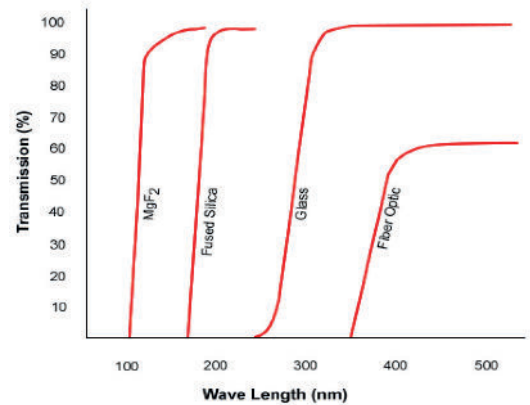

Figure 2: Transmission of input windows.
The input window of an image intensifier is selected to have good transmission for the light being imaged and typically determines the short wavelength response of the image intensifier. Example window materials are given in Figure 2. The photocathode is a thin film semi- conductor grown on the inside surface of the glass input window. The photocathode material is selected to provide high sensitivity to the light being imaged. When a photon, or quanta of light, is absorbed in the photocathode an electron is freed and can be emitted from the vacuum surface of the photocathode as a photo-electron (pe). The photocathode’s Quantum Efficiency (QE) is defined as the ratio of photoelectrons emitted from the photocathode’s surface (N_{pe}) to the number of photons incident on the photocathode ($N_{photons}$).
1. Lower wavelength cut-off is determined by the input window given in Figure 2, Fused Silica is assumed except for Csl which uses MgF2.